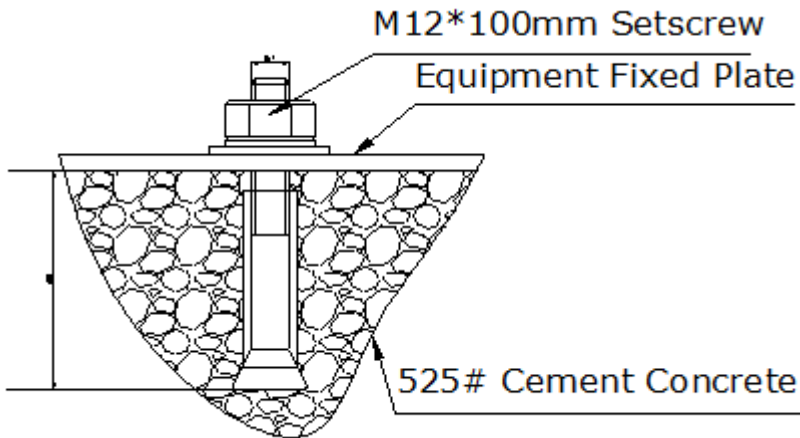

Fig. 4 Foundation Diagram for Ground Foot Installation
(1) Prepare the installation tools and sort the accessories according to the packing list;
- (2) Plan the system, then determine the installation location according to the system composition, operation mode and application site;
- (3) Determine the installation hole locations according to the installation requirements in Fig. 3. At each location, bury 4×M12 anchor bolts or 4×M12 expansion bolts in advance, as shown in Fig. 4;
- (4) Run the power cables and the low-voltage signal cables separately through 3/4" PVC tubes, and bury them in concrete at the corresponding positions;
- (5) Move each cabinet to its installation position and align it with the anchor bolts;